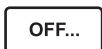

Fig. 7
- (B) The LCD screen display OFF... during powering off. Fig. 7